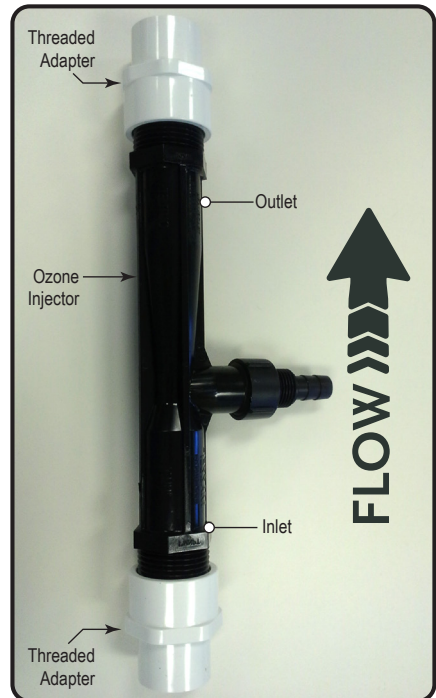

Figure 5. Injector Orientation
11. Plumb the inlet side of the ozone injector to the 3/4" branch of the PVC T joint using a 3/4" - 1" threaded adapter. Be sure to note the correct orientation and flow direction marked on body of the ozone injector. See "Figure 5. Injector Orientation".